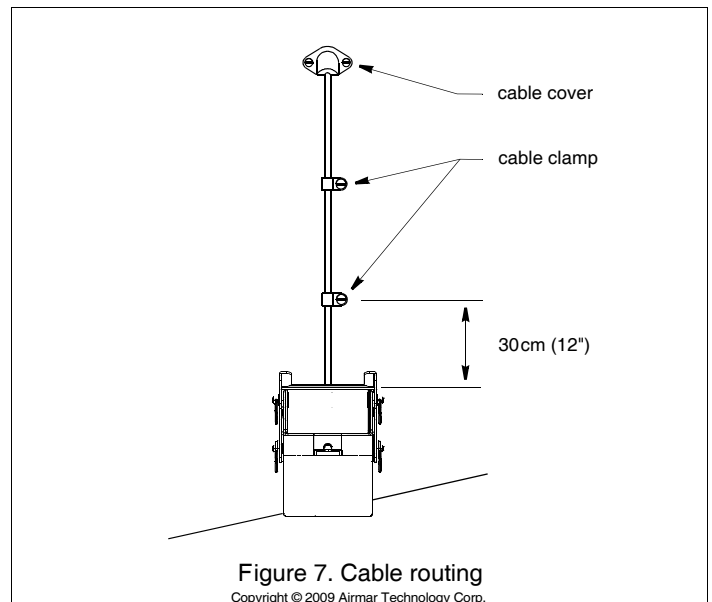

Figure 7. Cable routing
1. If a hole must be drilled through the transom, choose a location **well above the waterline** (Figure 7). Check for obstructions such as trim tabs, pumps, or wiring inside the hull. Mark the location with a pencil. Drill the hole using the appropriate size bit to accommodate the connector.